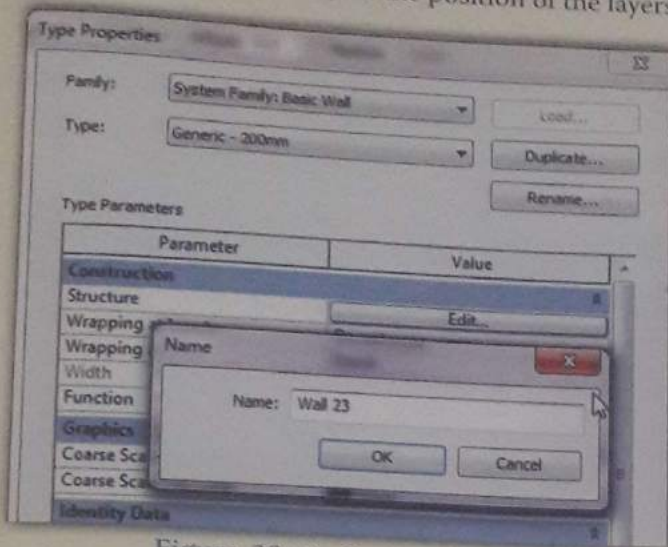

Figure 38: Duplicating Wall.
4. Click on duplicate for duplicating the wall type. Enter name Wall 23 (Figure 38).